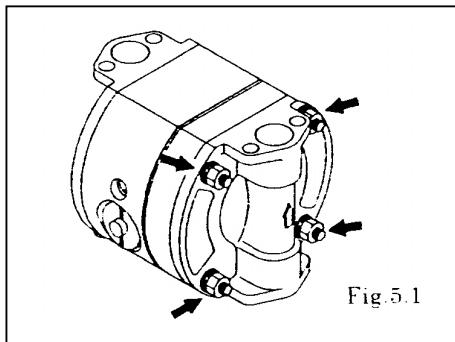

Fig.5.1
See [8. Exploded View] on and after p.14. (Fig. 5.1, 5.2, and 5.3 show the NDP-5 FAT.)
- Remove the 4 (6 on the NDP-15) retainer bolts from the “out” chamber, and remove the “out” chamber. [Fig. 5.1]